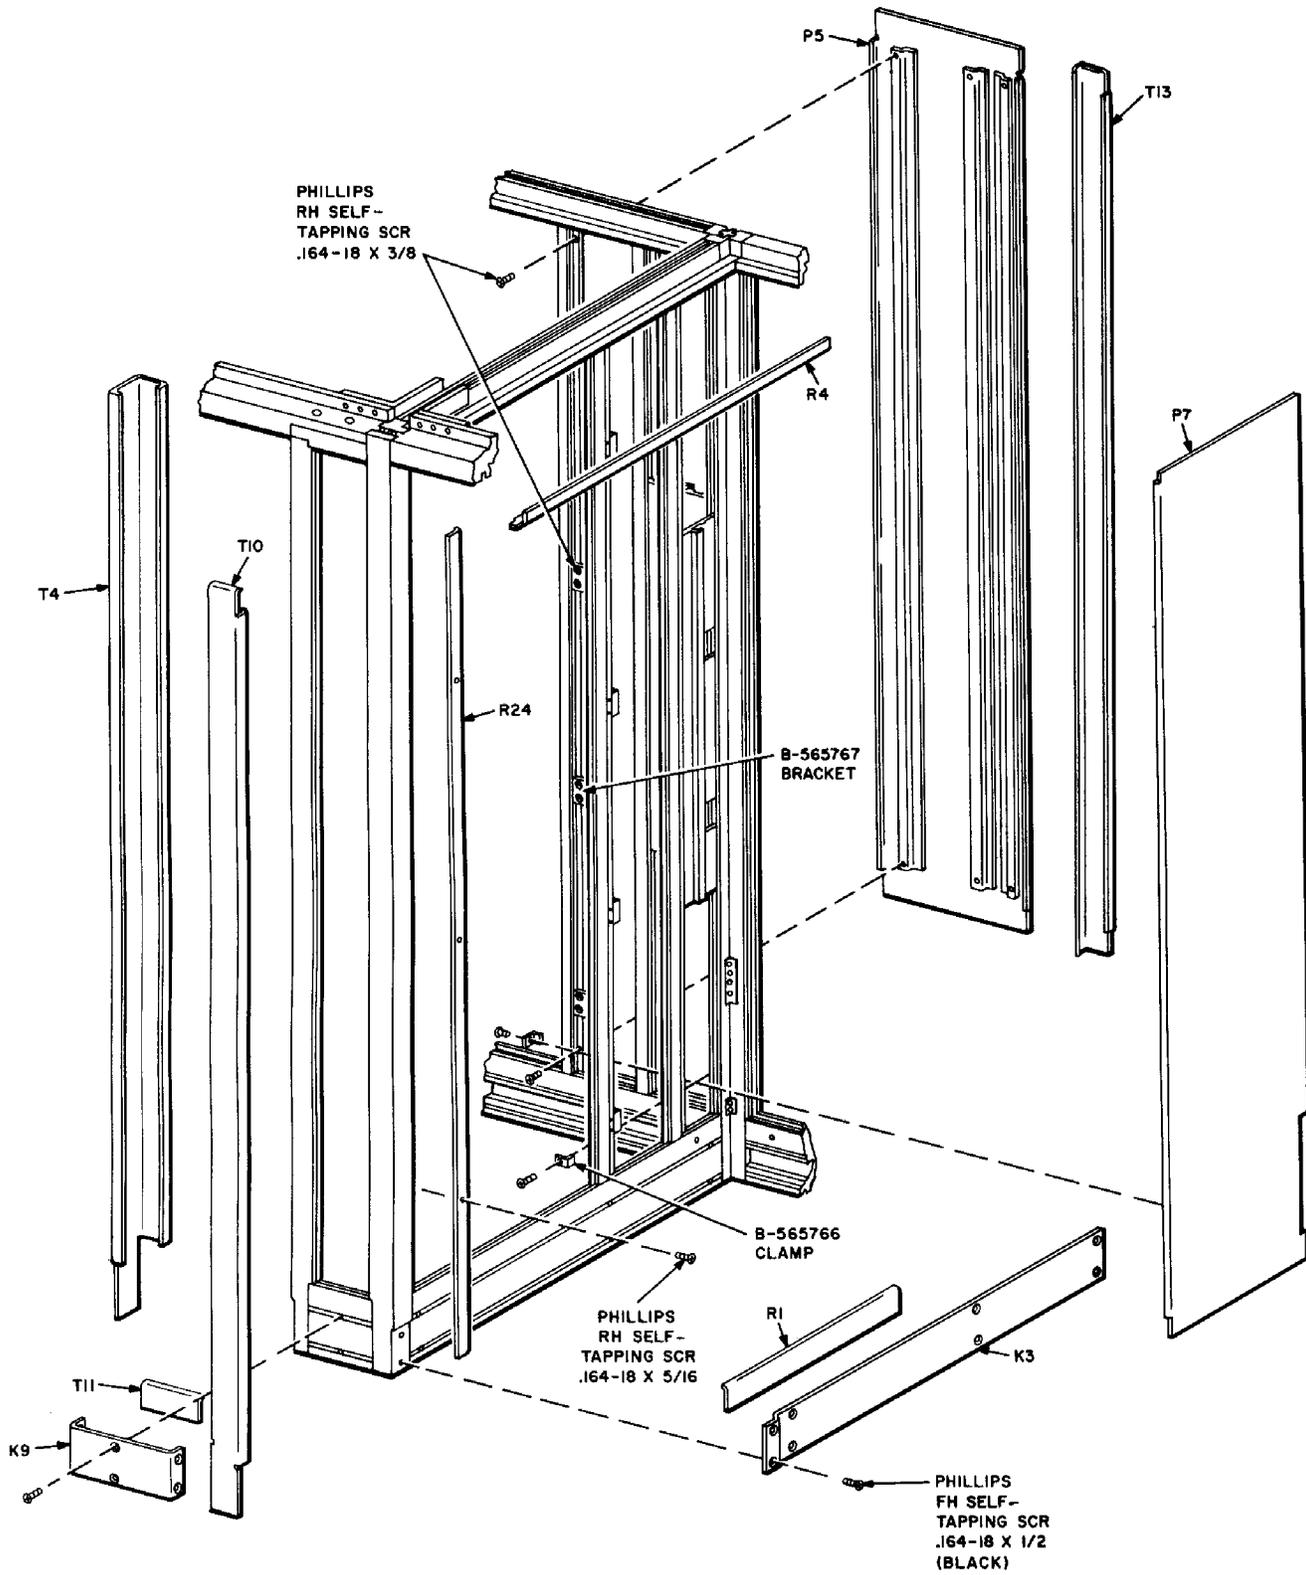

Fig. 22 — F-4 Wall
- (am) Refer to Fig. 22 and install T4, T10, T11, and T13 trim strips.
- (ap) Install four B-565767 brackets (Fig. 22) on the center column of the rear wall using eight .164-18 by 5/16 unpainted Phillips round head self-tapping screws.